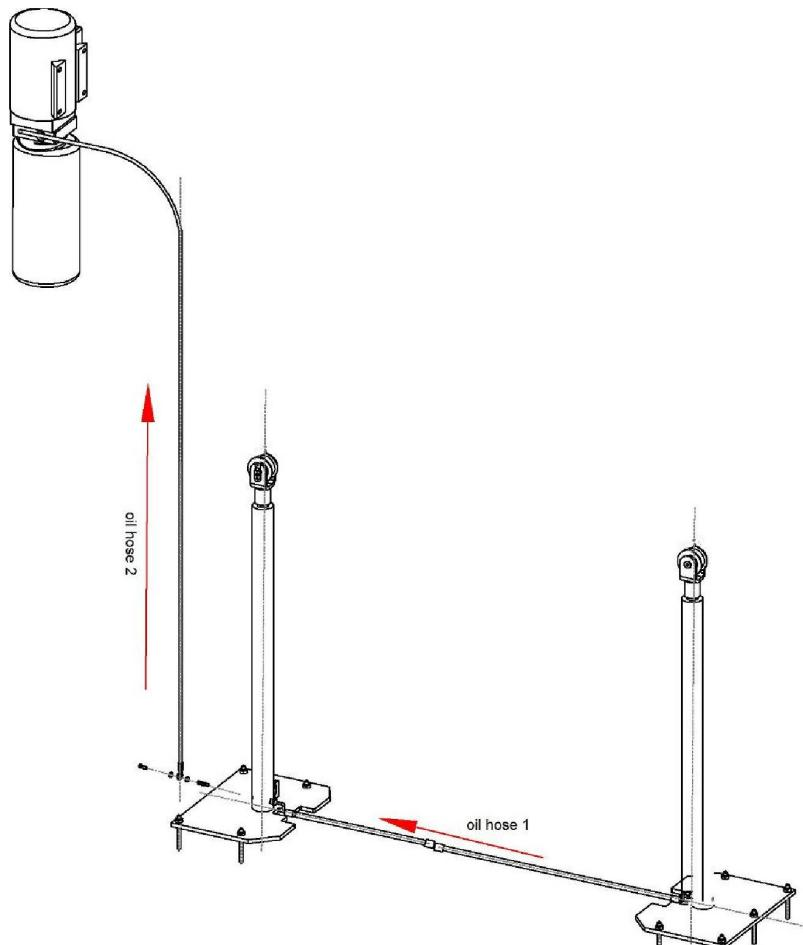

Fig. 9
9. Connect the oil hoses as per the following diagram (**fig. 9**).